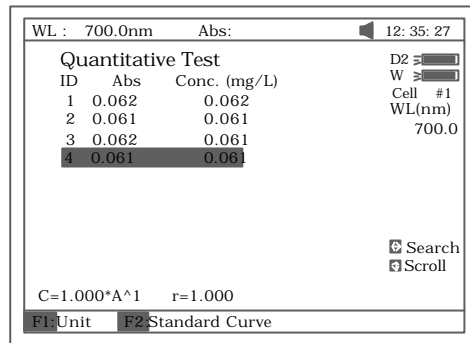

Fig 38
- 4.2 Pull the sample cuvette into the light path, press the key **【START】**, the results will be displayed on the screen (Fig 38).